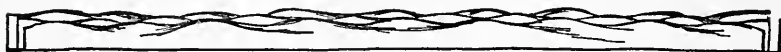

FIG. 327. — Waves for Ocean Scene.
**Additional waves** should be made out of strips of paper and fastened together as shown in Fig. 327, with
strip of waves similar to Fig. 327 in place of the stone wall; and